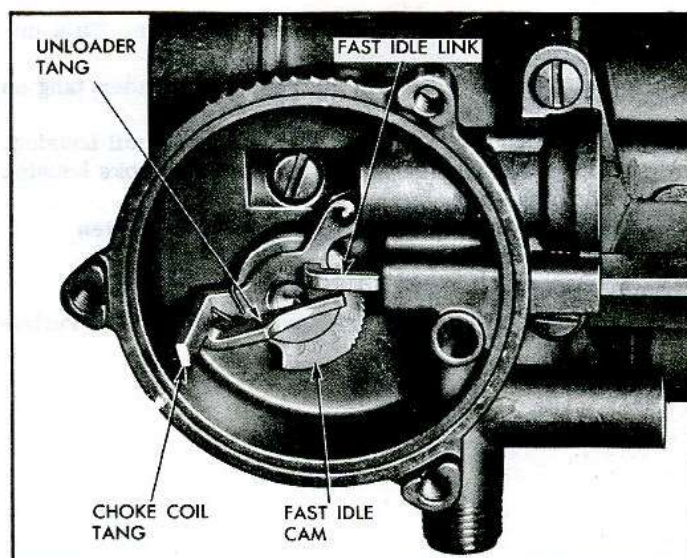

Fig. 34—Choke Housing and Fast Idle Linkage
14. Install fast idle link into choke housing and hook unloader projection over tang on fast idle cam assembly (fig. 34).